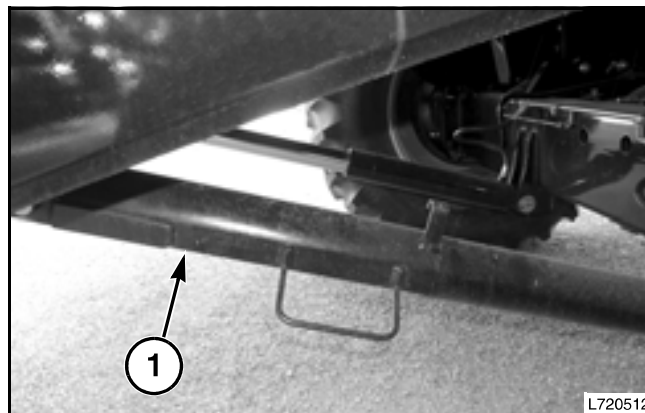

FIG. 138
FIG. 138: Lower the feeder housing to the ground or fully extend the header lift cylinders. Position the header lift cylinder stop (1) so that the stop fully contacts and covers three sides of the lift cylinder rod. Lower the feeder housing until the header lift cylinder stop contacts the end of the cylinder.